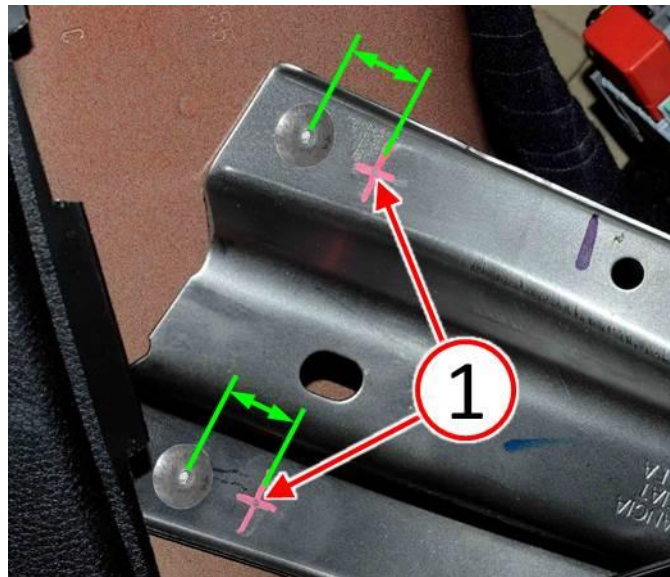

Fig. 3 Measure Mark And Center Punch Rivet Hole Locations
3. Measure, mark and center punch new hole locations (1) approximately 22 mm from the previous rivets as shown in (Fig. 3). Perform this step for both the right and left rear quarter trim panel support brackets.